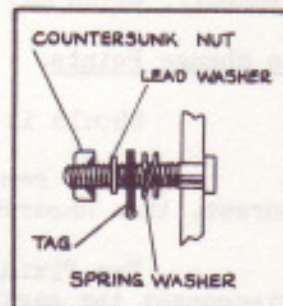

FIG. 6. CORRECT ORDER OF ASSEMBLY OF ITEMS ON THE TERMINAL SCREW (9).
In fitting the new bakelite pedestal the main point to note is the order in which the various items are fitted to the terminal (9) See Fig.6.